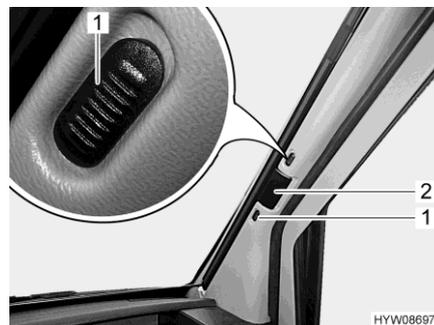

Fig. 25 Roman shade (windscreen)
- Push release knobs (Fig. 25,1) upward or downward (red point = open).
- Use the handle (Fig. 25,2) to pull the Roman shade for the windscreen towards the centre of the window.
- Use the handle (Fig. 25,2) to pull the two halves of the Roman shade for the windscreen outwards as far as they will go.
- Push the release knobs (Fig. 25,1) downward or upward (no red point = locked).